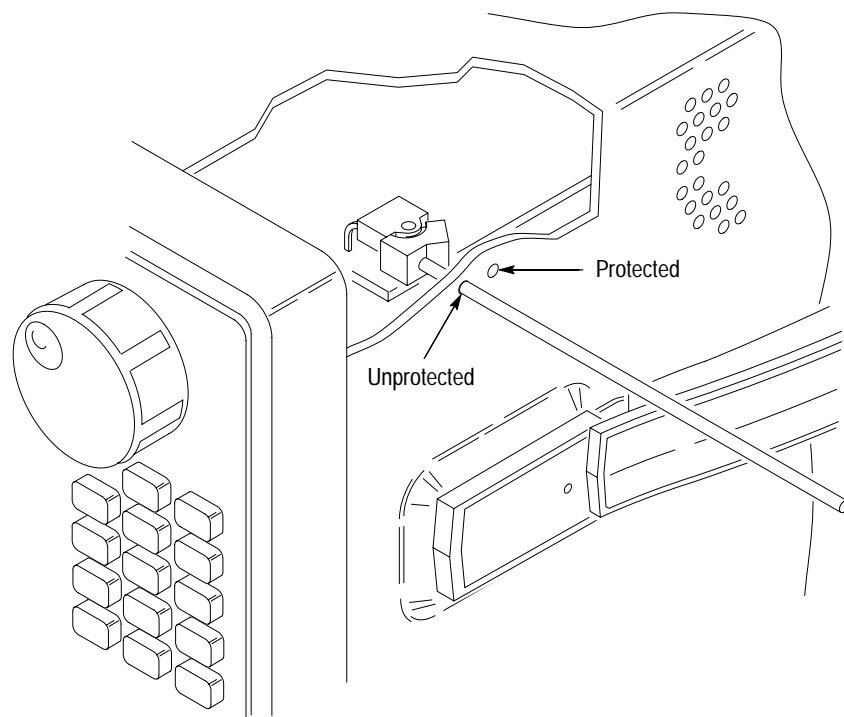

Figure 4: Accessing the protection switch
2. Insert a small, nonconductive object (adjustment tool) into the front access hole located on the right side of the oscilloscope near the front panel. Push the nonconductive object inward to position the NVRAM protection rocker switch in the Unprotected (write-enable) position. See Figure 4.
8. When the program completes execution it should display (A)cept or (C)hange? Type: A.
9. When the program completes execution it should display (A)abort or (C)ontinue?
10. Insert a small, nonconductive object (adjustment tool) into the rear access hole located on the right side of the oscilloscope near the front panel. Push the nonconductive object inward to position the NVRAM protection rocker switch in the Protected (write-protect) position. See Figure 4 on page 9.
the nonconductive object inward to position the NVRAM protection rocker switch in the Protected (write-protect) position. See Figure 4 on page 9.